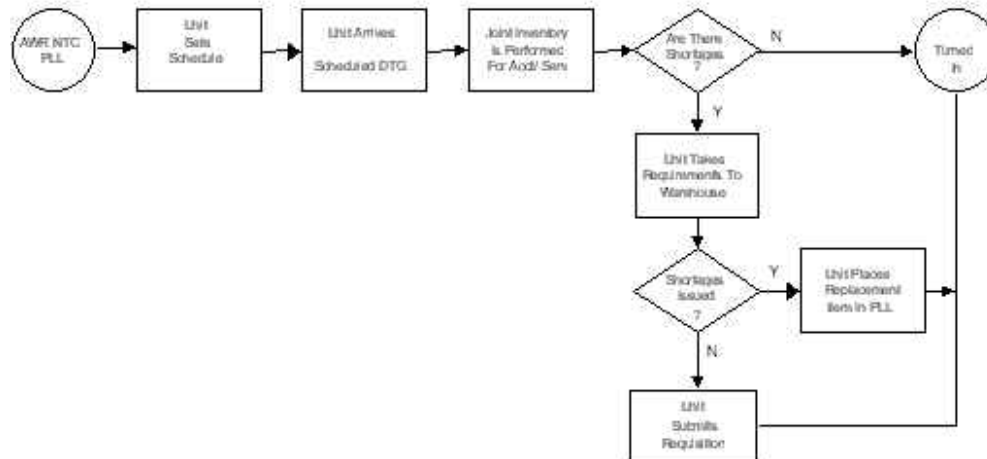

Figure 3-8
The USNS Irwin has an ASL for the BCT equipment. The 31st Maintenance Company, 27th CSB, will hand off the ASL to the Brigade's FSB. The ASL consists of approximately 530 lines. The ASL is uploaded on four (4) repair parts vans and four (4) 871 trailers. Prime movers are available on the USNS Irwin. The ASL is prepositioned at VIC NV 2911005. See figure 3-8.